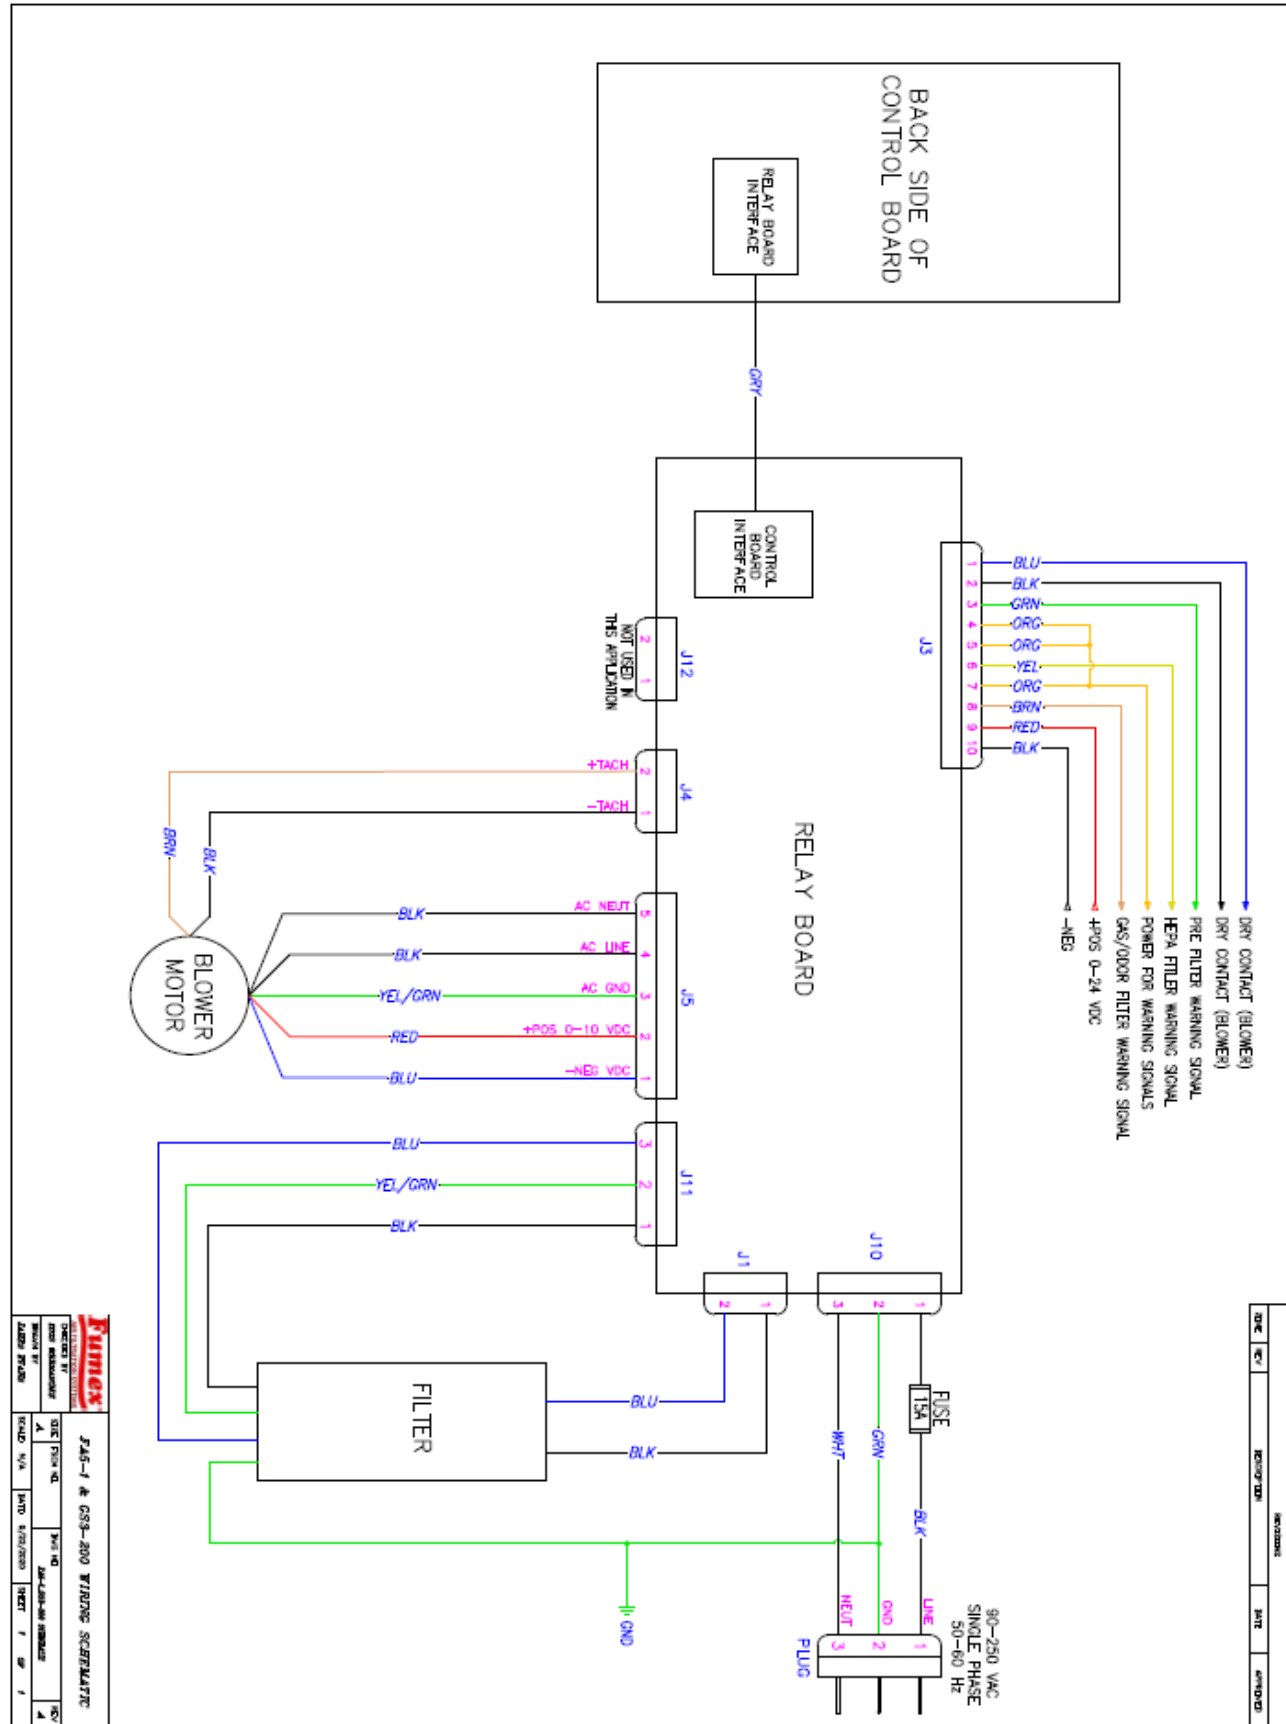

Figure 1
The FA5-1 can be supplied with an optional interface package providing remote start/stop and filter monitoring capabilities (Part # FA227). Please see instructions below for Relay Activation/De-Activation procedures and refer to the drawing in Figure 1 for remote connections.
11. Remove the flash drive and apply 0-24 VDC to the start relay according to the wiring diagram in Figure 1 to start the unit.